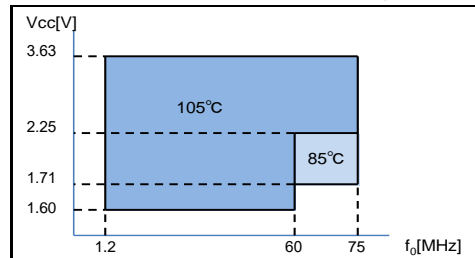

Figure 1: The upper limit of Operating temperature and the related conditions
d: Supply voltage Refer to Figure 1
*Figure 1 is on the next page